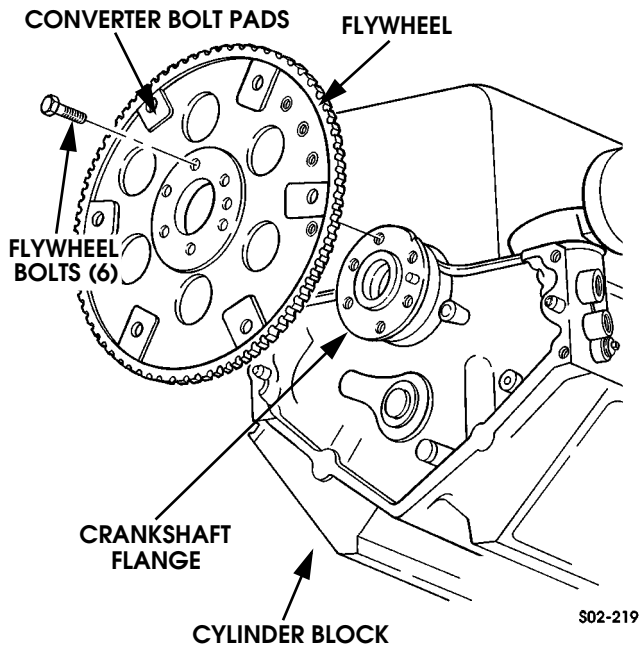

Figure 2-188: Flywheel Installation
11. Install flywheel on flange (Figure 2-188). Be sure converter bolt pads are facing out and away from engine.